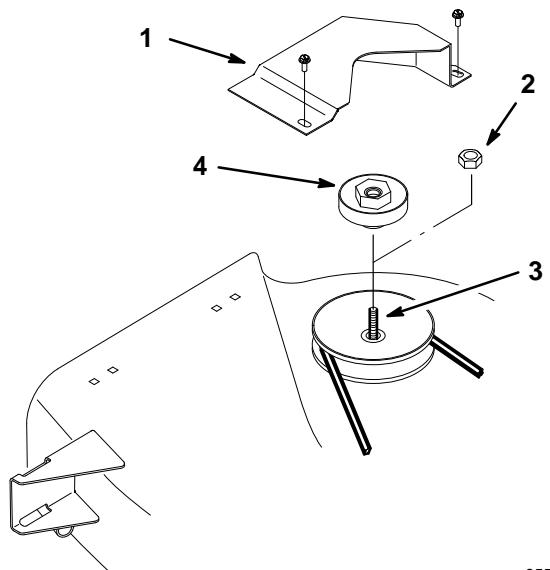

Figure 31
3. Install the belt cover using existing hardware (Fig. 31).